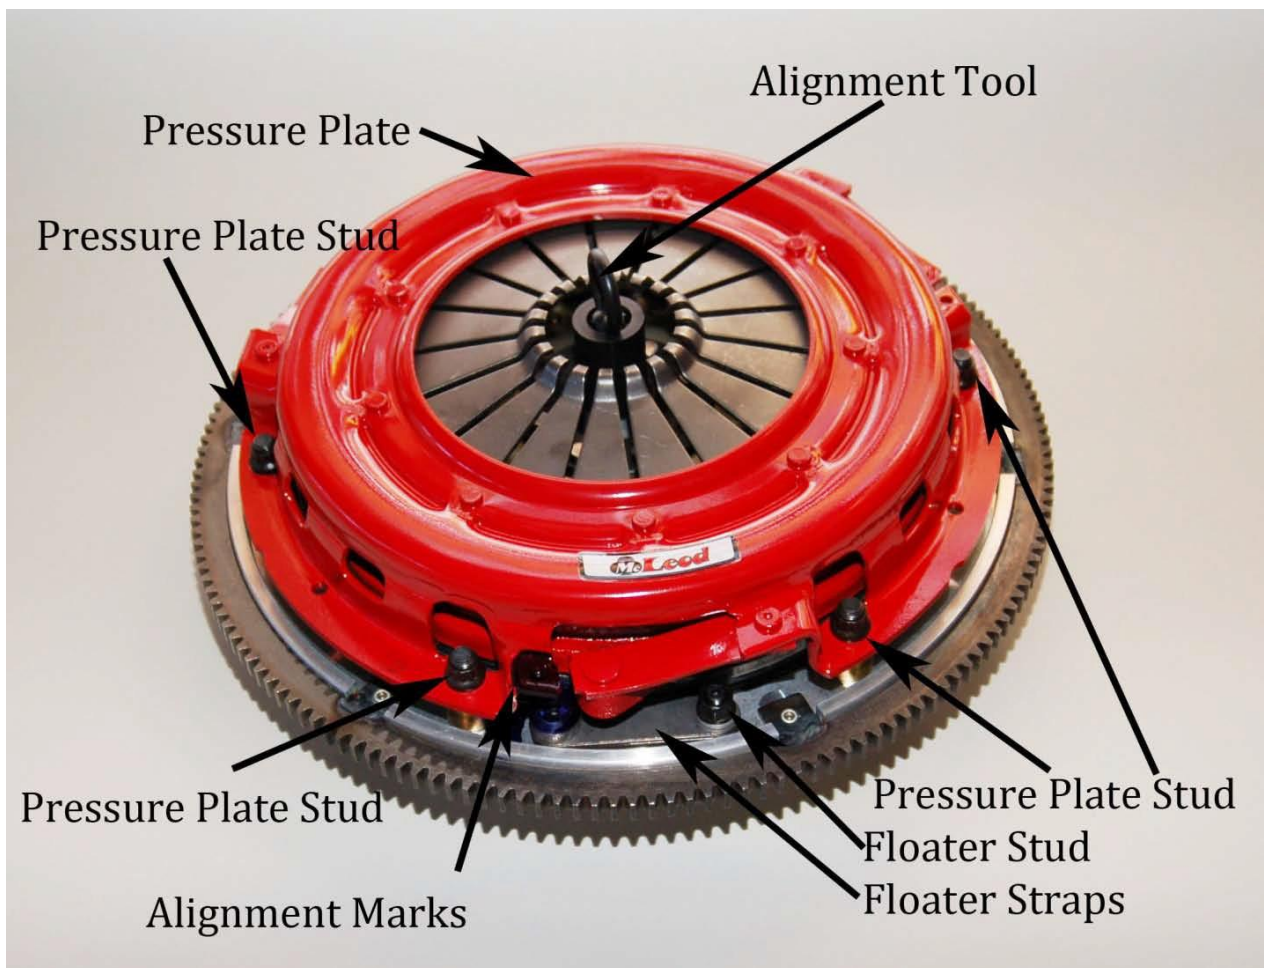

Figure 1
- 1) Inspect clutch assembly before disassembly. See Figure. 1. Note alignment marks.
Lever Blocks are used to block down the fingers of the pressure plate, which relieves the stress on the bolts as you tighten them to the flywheel during installation. These blocks MUST be removed after the pressure plate has been installed over the disc and the bolts have been torqued to their final value. Fig 1 shows the three lever blocks installed between the fingers and the pressure plate.